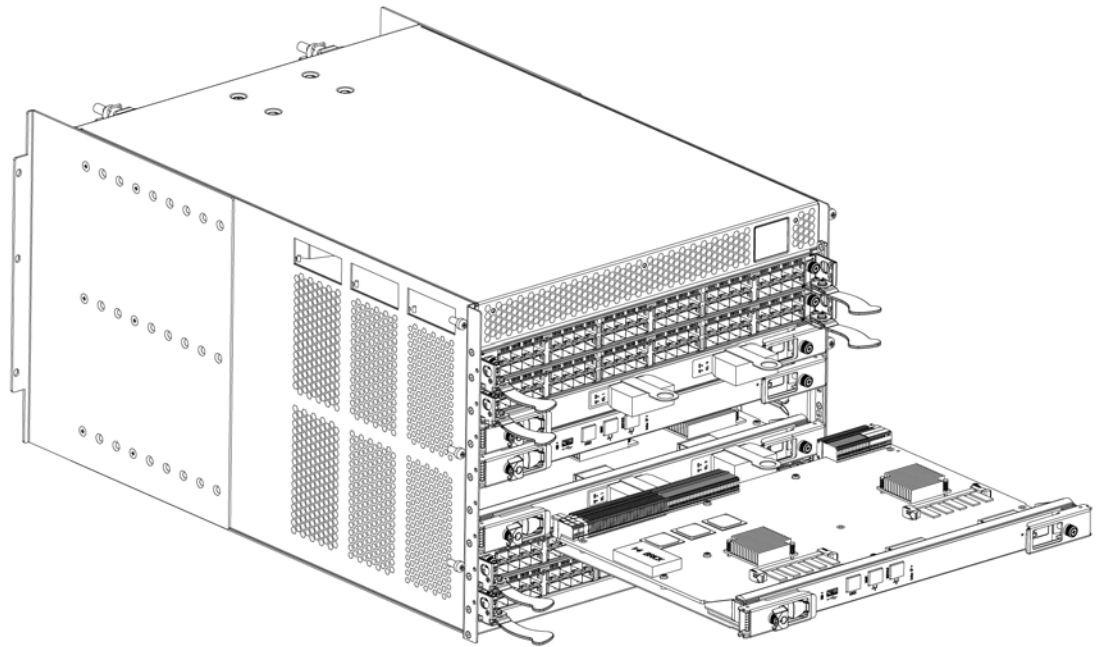

FIGURE 23 RRP: Control processor blade (CP8)
- Turn the CP blade off and notify the PowerConnect B-DCX-4S of a hot swap request by sliding the slider switch in the left ejector to the off position (Figure 23).
4. Power off the blade by sliding the slider switch in the left ejector down to the off position (Figure 23).
7. Lever open both ejector handles simultaneously to approximately 45 degrees and pull the CP blade out of the chassis (Figure 23).